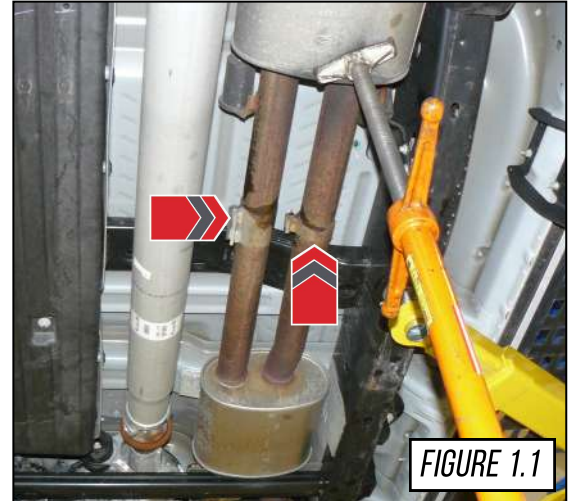

FIGURE 1.1
Loosen the factory clamps located just forward of the muffler, as shown by the arrows in **Figure 1.1**.
- The pole jack in **Figure 1.1** is recommended as a safety measure.